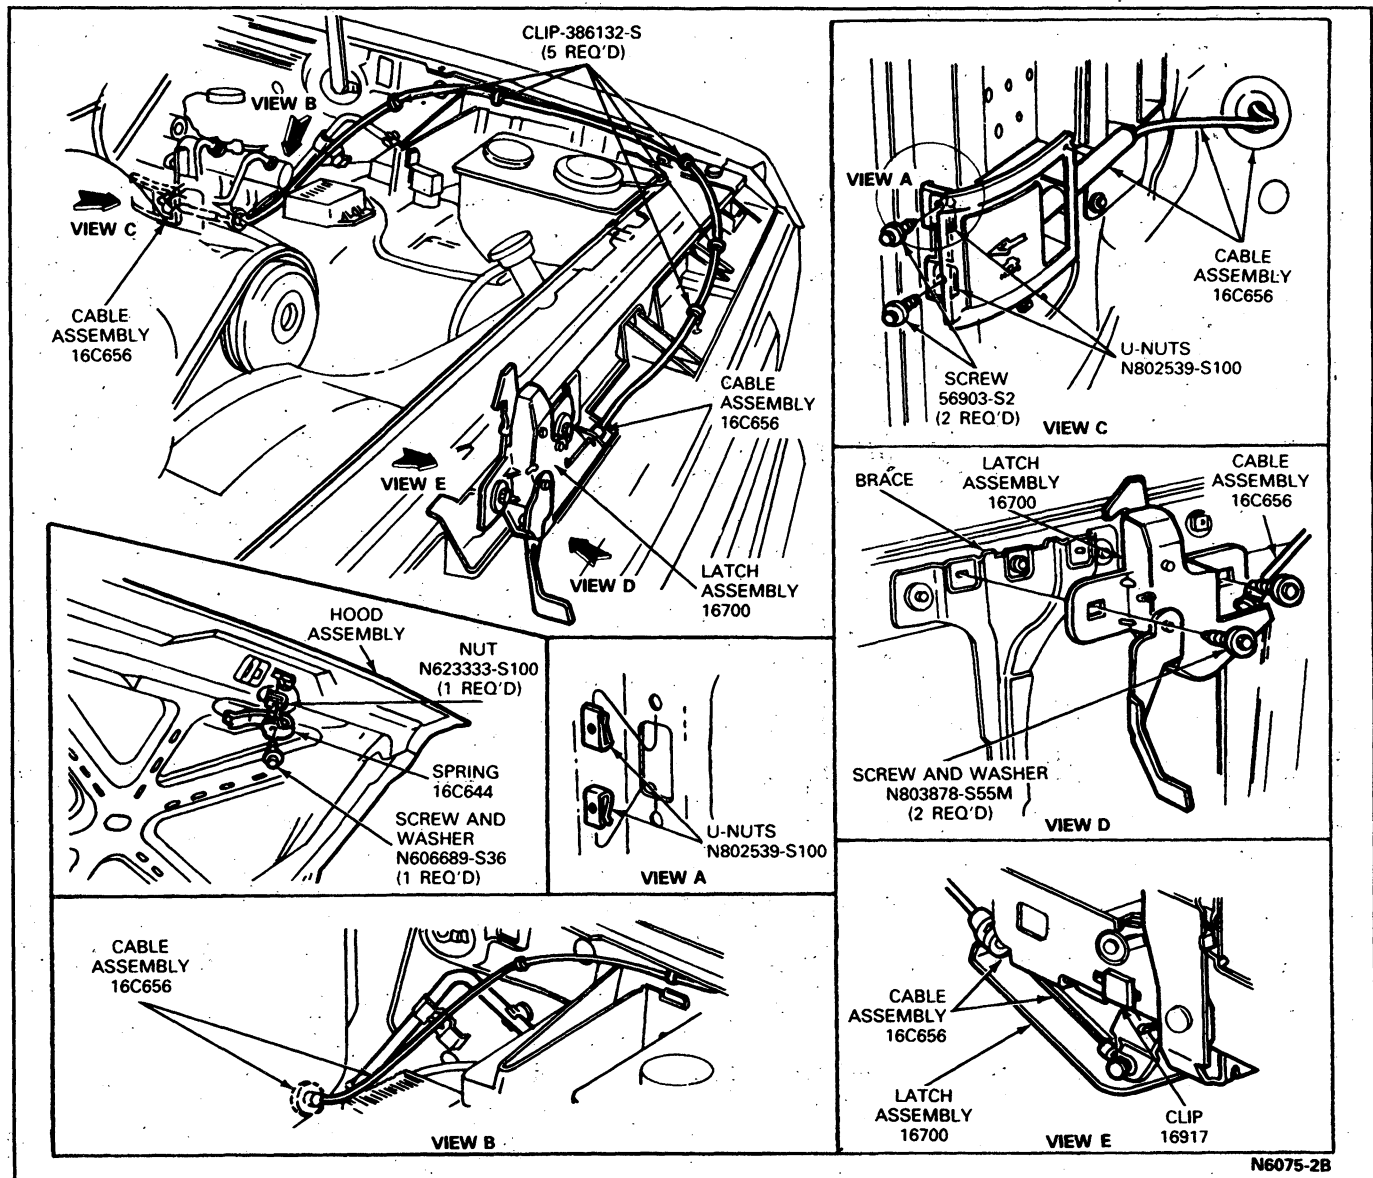

FIG. 2 Hood Latch Remote Control Cable and Lock—F-150—F-350 and Bronco
The release cable and handle is routed as shown in Figs. 2 and 3.
1. If so equipped, remove the hood latch cable plate screw, the cable plate, cable clip and cable from the hood latch (Figs. 2 and 3).